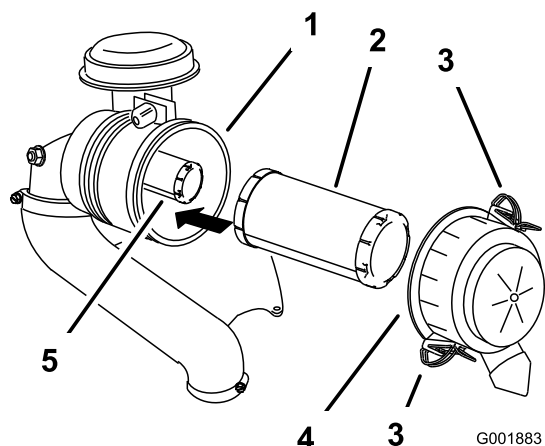

Figure 44
3. Release the latches on the air cleaner and pull the air-cleaner cover off the air-cleaner body (Figure 44).
5. Gently slide the primary filter out of the air-cleaner body (Figure 44).
2. If you are replacing the inner filter, carefully slide it into the filter body (Figure 44).
3. Carefully slide the primary filter over the safety filter (Figure 44).
4. Install the air-cleaner cover and secure the latches (Figure 44).